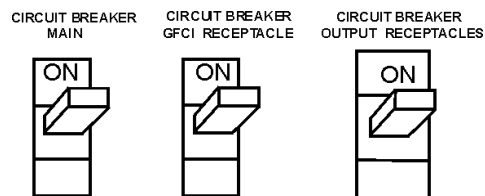

Figure 53. Main and GFCI Circuit Breakers
17. Turn the MAIN, GFCI and LOAD circuit breakers to their ON position (Figure 53).